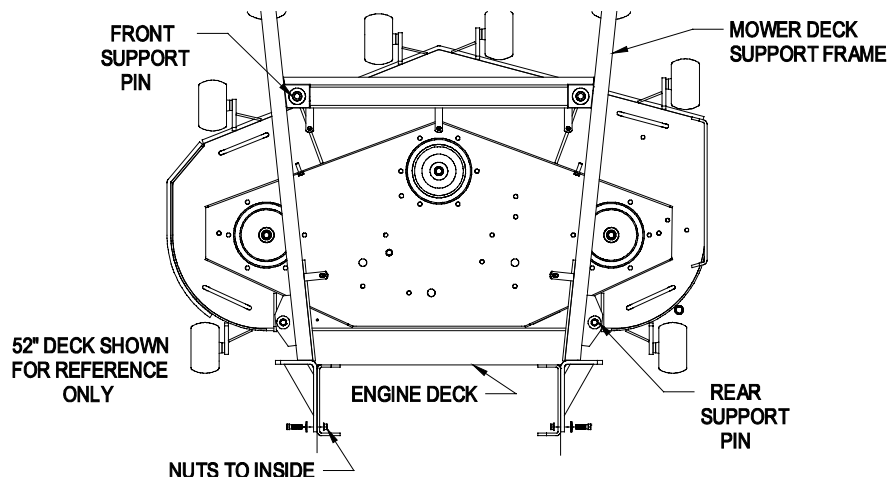

FIGURE 1
- 3.5.2 Remove mower deck support frame from mower deck by removing the two hairpins and spacers from the front deck support pins and by removing the two hairpins and spacers from the rear deck support pins (See Figure 1).
- 3.5.3 Install mower deck support frame to tractor engine deck and secure using (8) 3/8-16 x 1 1/4" screws, (8) disc spring washers and (8) whizlock nuts from bolt bag (See Figure 1).
NOTE: Place spring washer cone side against bolt head (cupped side away from head) and install to outside of support frame (as shown in Figure 1). Install with whizlock nuts to the inside of engine deck. Tighten until spring washers are flat.
Align and re-install the mower deck support pins into the support frame. Install the two spacers and hairpins onto the front support pins and the two hairpins and spacers onto the rear support pins (See Figure 1).